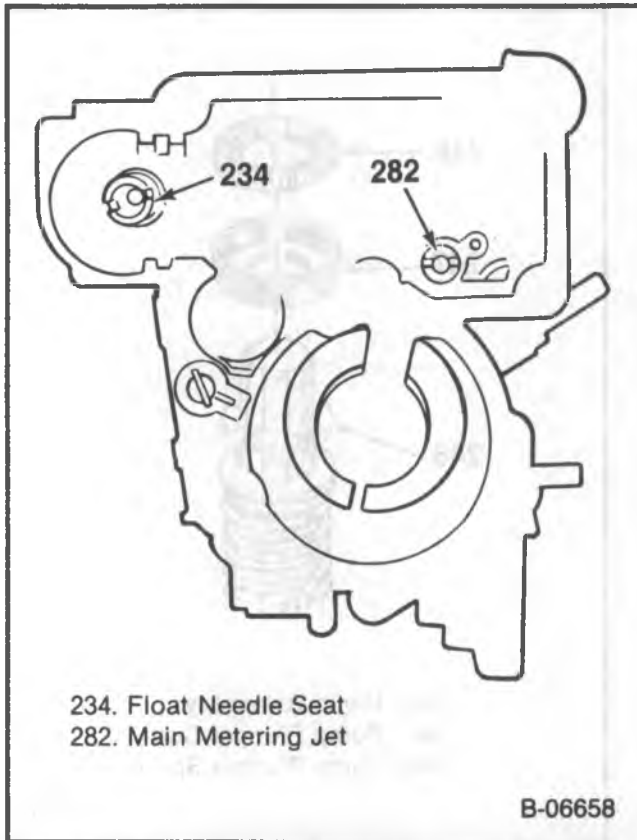

Figure 23 - Float Needle Seat and Main Metering Jet
- ↔ Remove or Disconnect (Figures 23, 22)
1. Float needle seat (234) and seat gasket (235).
2. Main metering jet (282).